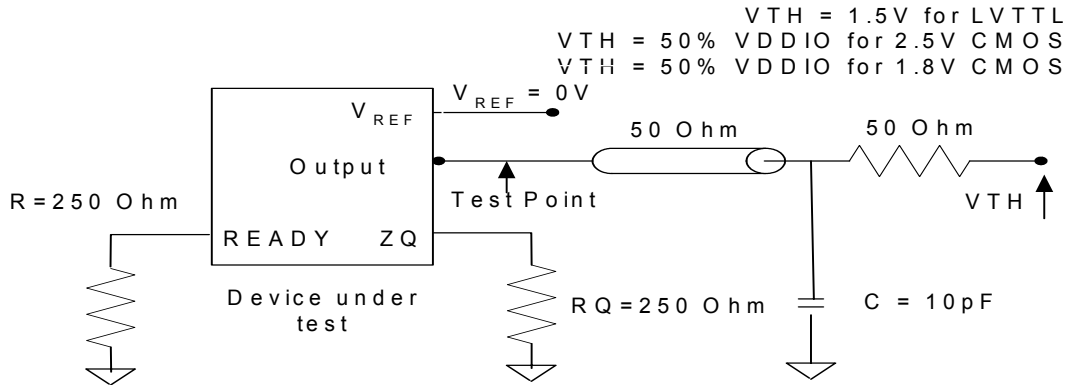
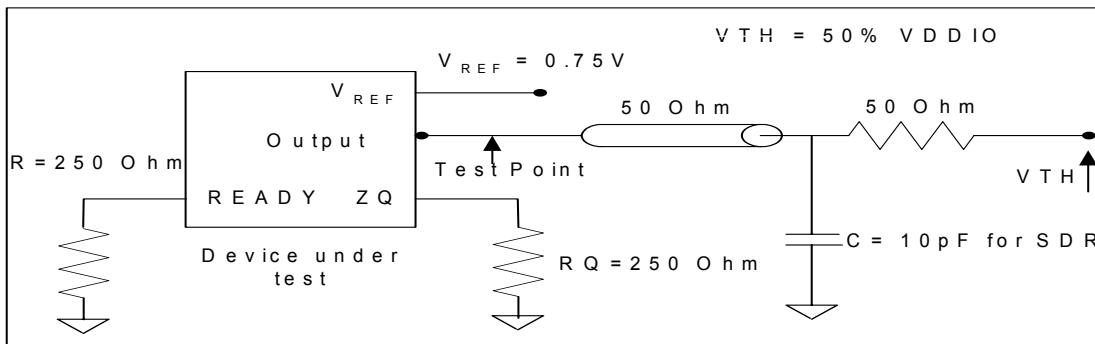

Figure 5. Output Test Load for LVTTL/CMOS
Figure 6. Output Test Load for HSTL
- 30. Parameters specified with the load capacitance in Figure 5 and Figure 6.